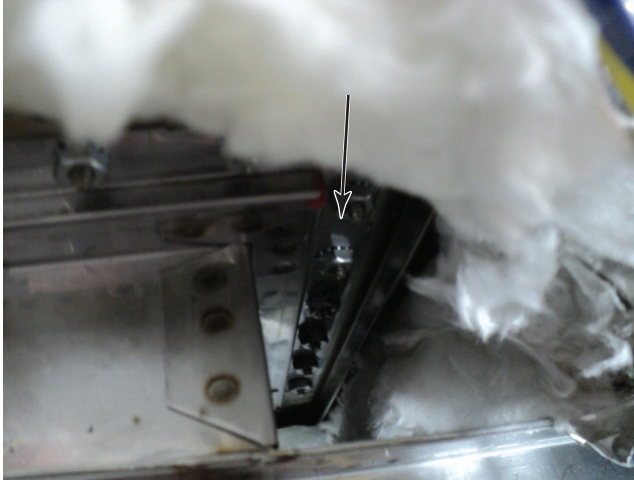

Figure 13
3. It is recommended that you remove the nuts using the following sequence, six nuts along the right side of the feed box (Figure 13).